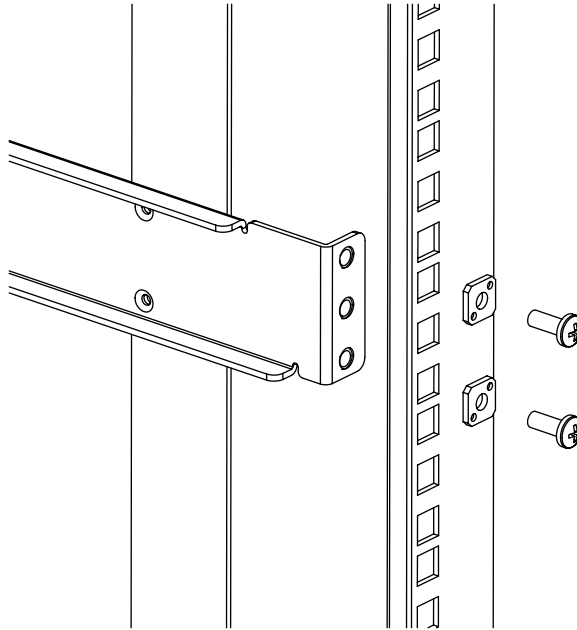

Figure 4: Assembling the Outer Rails (HP 10,000 Series Rack)
- For an HP 10,000 Series rack, install two #10-32 x 1/2-inch Phillips pan-head screws with captive star lock washers and two #10 adapter washers in the upper and lower hole locations of the right rail. Then install two #10-32 x 1/2-inch Phillips pan-head screws with captive star lock washers and two #10 adapter washers in the upper and lower hole locations of the left rail, as shown in Figure 4.